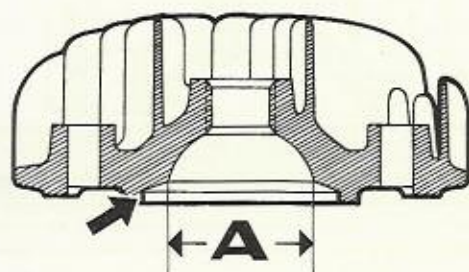

Fig. 4
4. Remove the alternator. To do this, first remove the alternator cover by unscrewing the 2 screws shown in Fig. 4. Then, using an alternator wrench, turn the alternator pulley clockwise until the alternator is loose. Remove the alternator from the engine and set it aside.
Some of our engines are supplied with various compression ratios and it is therefore important to check before assembly whether the correct head is used. The relevant compression ratio can be ascertained from the instructions manual supplied with the machine. Models X 30, R and M are available with one cylinder head only. Models MS, VSD and V are available with any one of four. They differ as follows (see fig. 4 and the chart below): The cylinder head for a compression ratio of 11.5 : 1 is a turned-down version of the 10.5 x 1-ratio head. The shroud is reduced by 0.0196 in (0.5 mm) and protrudes only 0.0196 to 0.0236 in (0.5 to 0.6 mm). This version is thus easily recognisable (see fig. 4, arrowed).